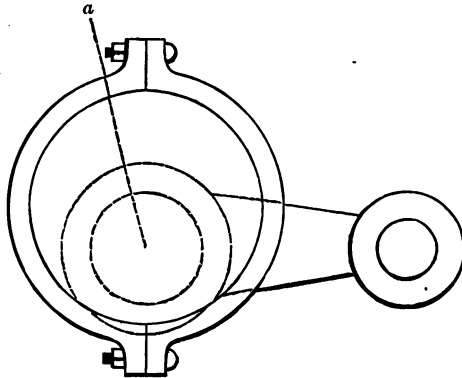
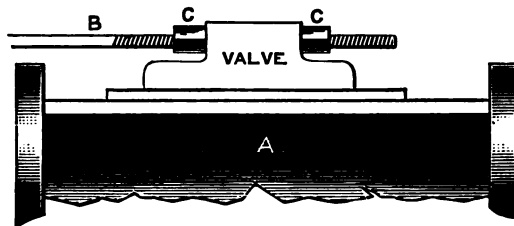

FIG. 100.—SETTING AN ECCENTRIC.
FIG. 101.—SETTING AN ECCENTRIC (SHOWING MEANS FOR FINDING LENGTH OF ROD).
It is evident that the ends of such an axle may be bent down in lieu of attaching these pieces, and these ends can easily be cut off after the crank pin has been turned true. This is a much quicker method than the first, which is, however, almost necessary when the axle is of large size. It will probably be rightly conjectured that the axle or crank will be liable to yield, and so escape from the centres, to the detriment of the work. To prevent this, blocks are generally placed between the sides of the cranks and the attached end pieces. These, of course, take the thrust as if the whole were one solid bar. Few crank pins of model engines are turned, but they look much better, as nice shoulders are thus made at the ends of the crank pin; but mere bent wire, such as forms the axle of many model engines, does not admit of this finish, nor does it require it. Wherever it can be done, and this is the case in most engines, the crank should be like A, Fig. 100, at the extremity of the axle, to which it can be easily riveted. It is made in two pieces, the pin being screwed in or turned with a tenon, placed in position in a drilled hole, and riveted by a few taps of a light hammer.
and drawing (Fig. 100), as it can hardly be improved upon, and it also gives the means of finding the proper length of the eccentric rod. The latter, in a model, is screwed into the strap, and, if desired, it can also be made with a screw at the valve end with two nuts, one of which will lie on each side of the boss on the back of the slide valve, as in Fig. 101 (A), where C C are the nuts and B the screwed rod, which must, as explained, pass quite freely through the boss of the valve, so as
clear to the exhaust, while the other is entirely or nearly shut. This shows the rod to be too long or too short, as the case may be. If the port nearest the crank in a horizontal engine is wide open, and the other port shut, the rod is too long, and must be shortened half the difference only. I say half the difference, because it must be remembered that what is taken off one end is put on the other. When the valve "runs square," as it is called, or opens and shuts the ports properly, set the eccentric, as shown in Fig. 100, p. 211. The eccentric is always in this position in every case, whether the engine be vertical, horizontal, or inclined. The wide part of the eccentric and the crank are always at right angles to each other, excepting such departure from a right angle as the lead and lap takes off. Fig. 100 represents an eccentric without lead, working a valve without lap. (This will suit a model.) Such a coincidence seldom obtains in practice, and the true position of the eccentric is shown by the dotted line, *a*. This indicates that the eccentric is turned on the shaft a little away from the crank, thus pulling open